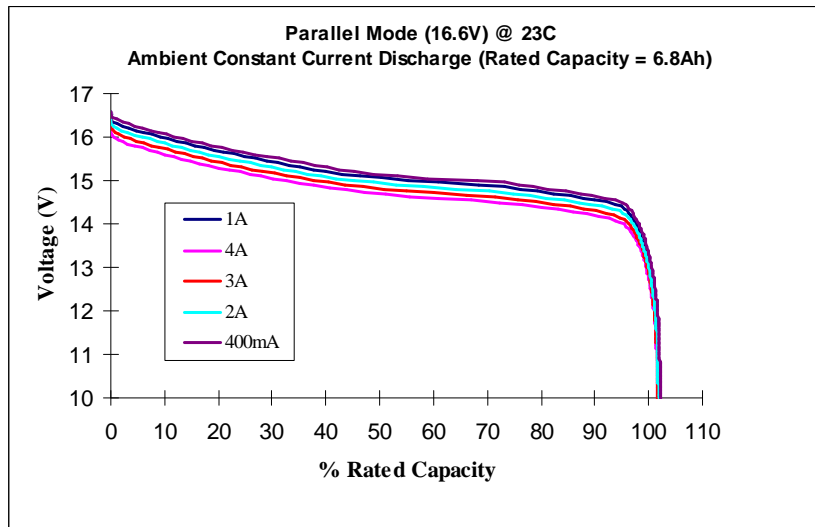

Figure 5
11.3. Parallel Mode Ambient Constant Current Discharges Voltage –v- Rated Capacity (Figure 5)